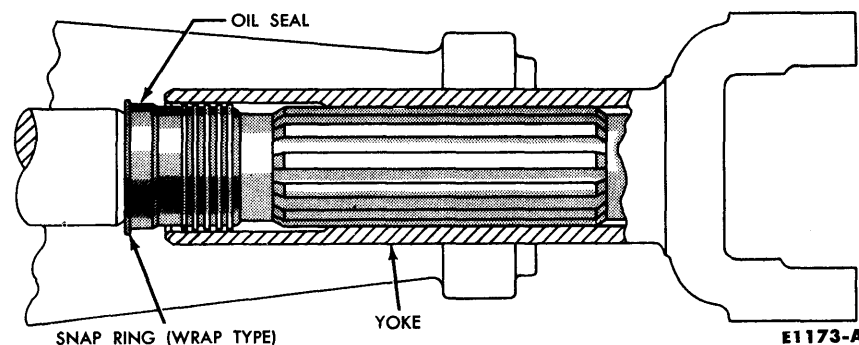

FIG. 4—Output Shaft Spline Seal
11. Lubricate the yoke spline with B8A-19589-A lubricant. This spline is sealed so that the transmission fluid does not "wash" away the spline lubricant (Fig. 4). Remove the tool from the extension housing. Install the yoke on the transmission output shaft.